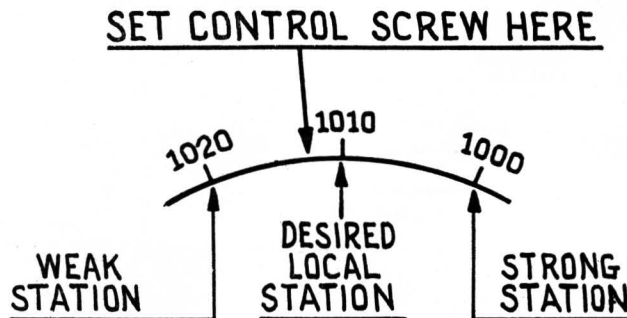

FIG. 1. Setting Control Screw to Eliminate Interference.
**For example:** Suppose we want a station on 1010 K.C. on the dial. Of course, this will be a powerful local or "best heard" station. At night there are stations on both sides of the station we have selected. Let us assume that the station on 1000 K.C. is strong at night and that the station on 1020 K.C. is weak at night. The control screw for the 1010 K.C. desired local station should be set to lock on the side towards the weaker station. This can be accomplished by turning the control screw one tooth towards the weaker station (1020 K.C.). (See diagram Fig. 1.) Since the mechanism locks on the side of the desired station away from the strong station in the next channel, the set will not jump away from the desired station if its signal fades. Magnetic tuning will compensate for this error in setting.